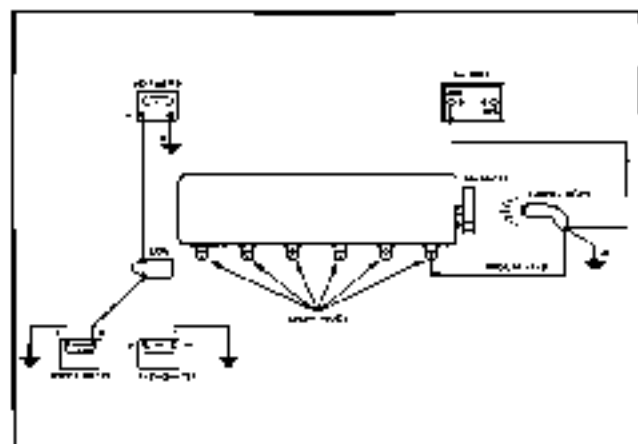

Fig. 6C-1 Schematic of Tune-Up Instrumentation
Follow manufacturer's recommendations for the use of testing equipment. Fig. 6C-1 shows a basic schematic for instrumentation which will apply to many types of test equipment and may be used as a rough guide if equipment manufacturer's instructions are not available.
Connections shown in Fig. 6C-1 are made as follows:
1. Attach a timing light and tachometer as shown in Fig. 6C-1.